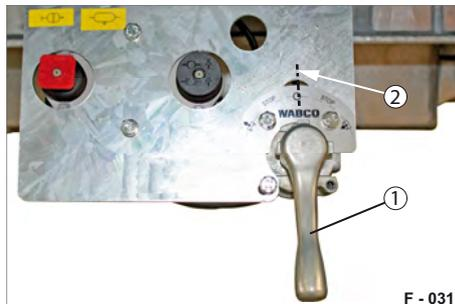

Fig. 28 Turning lever in drive position
If the turning lever (Fig. 28/1) is in drive position (Fig. 28/2), it is pulled out and cannot be turned.
- ▶ Bring the turning lever (Fig. 28/1) into drive position before starting the journey.